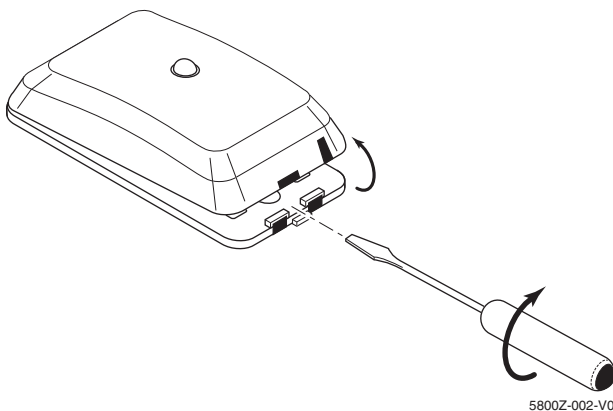

Figure 1. Opening the 5800ZBRIDGE
2. Open the 5800ZBRIDGE case as shown in Figure 1.